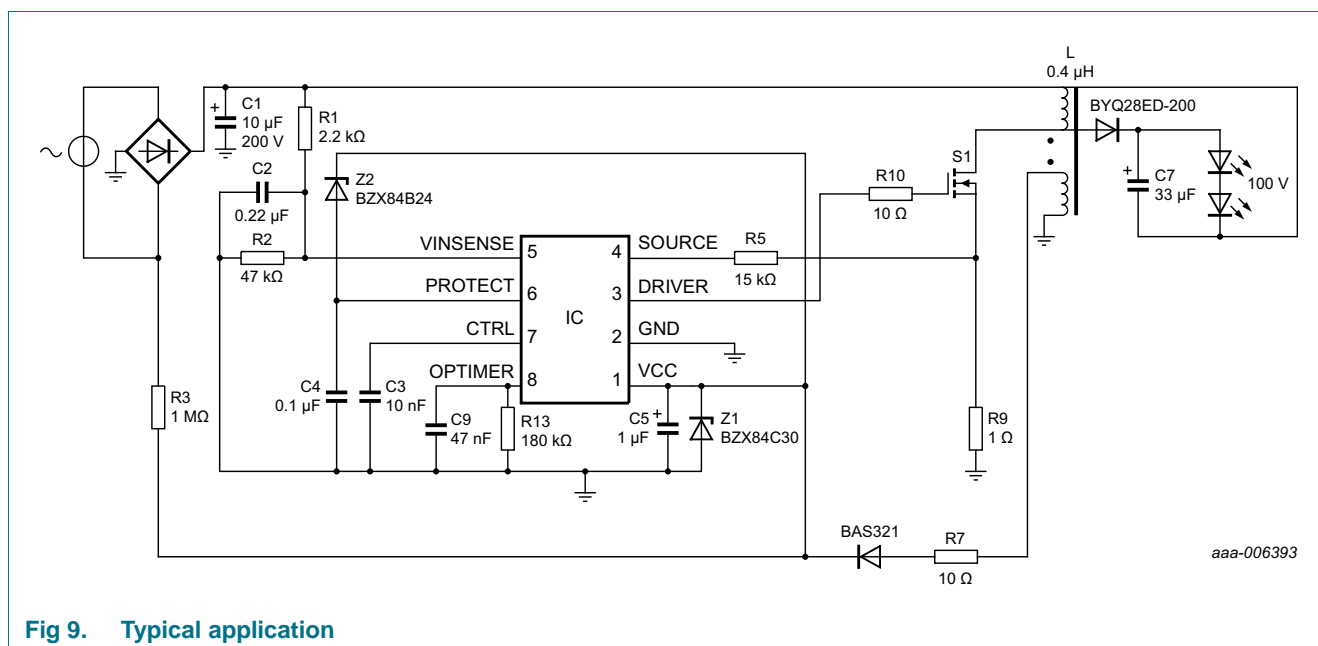

Fig 9. Typical application
A LED driver with the SSL5001T is a flyback converter operating in Discontinuous Conduction Mode (DCM) and if required in Continuous Conduction Mode (CCM) (See Figure 9).
In the example shown in Figure 9, the OTP level is set by Positive Temperature Coefficient (PTC) resistor R4. The VINSENSE pin is used for mains voltage detection and resistors R1 and R2 set the start voltage to about 80 V (AC).